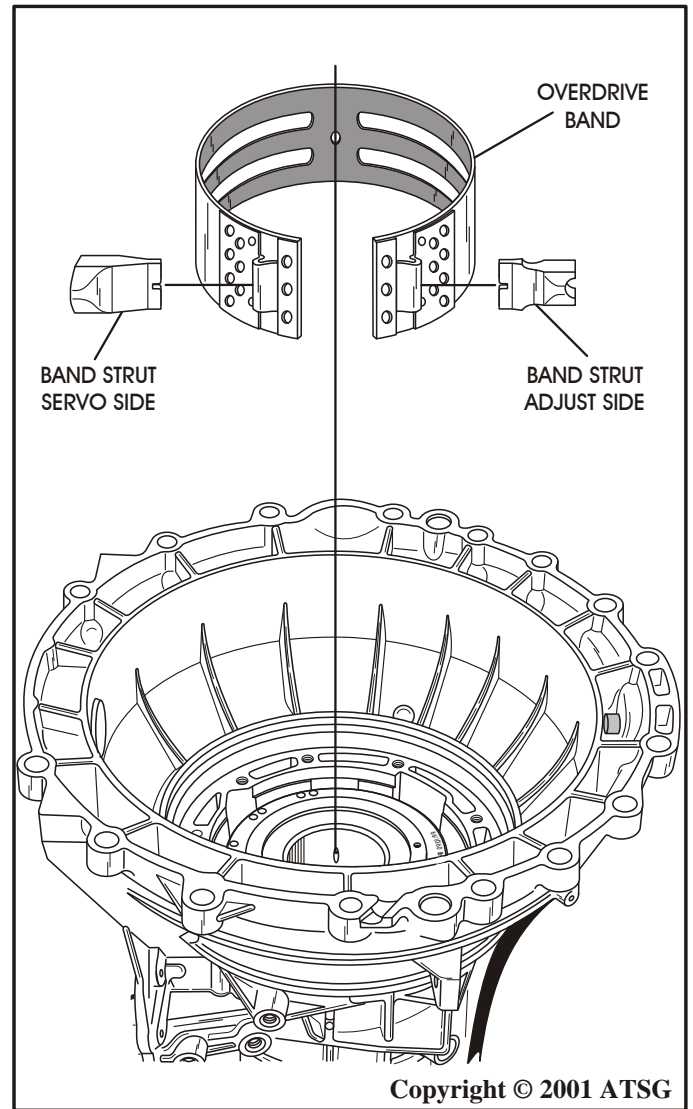

Figure 164
50. Install the overdrive band into transmission and around the coast clutch housing, as shown in Figure 164.
51. Install the overdrive band struts on each side of the band, *exactly* as shown in Figure 164.